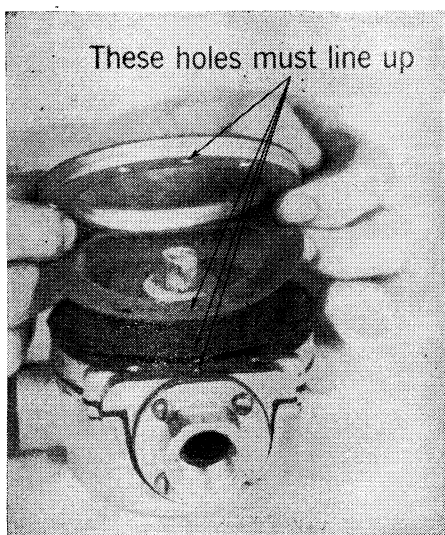

Fig. 13 Removing control valve cover, spacer ring and diaphragm
17. Remove diaphragm cover and spacer ring, Fig. 13.
5. When assembling the control valve, be sure the by-pass holes in the spacer plate, valve body, diaphragm and gasket all line up as shown in Fig. 13 so that the passage is clear.